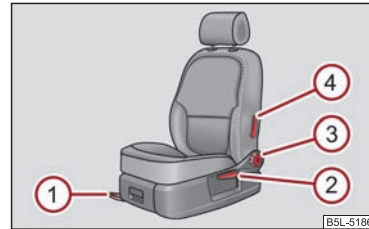

Fig. 55 Controls at seat
- Pull the lever ① ⇒ fig. 55 up and push the seat into the desired position.
- Release the lever ① and push the seat further until the lock is heard to engage.
- Relieve any pressure on the seat backrest (do not lean on it) and turn the hand-wheel ③ ⇒ fig. 55 to adjust the desired angle of the backrest. ▶